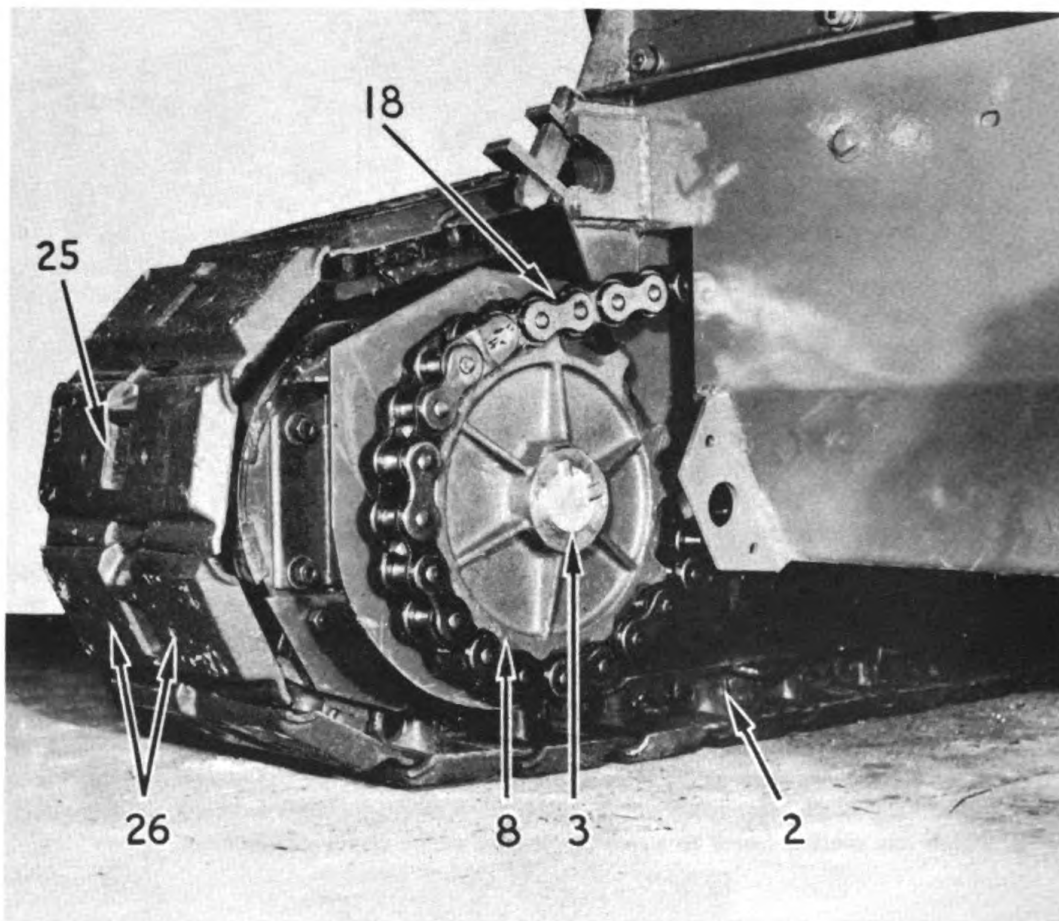
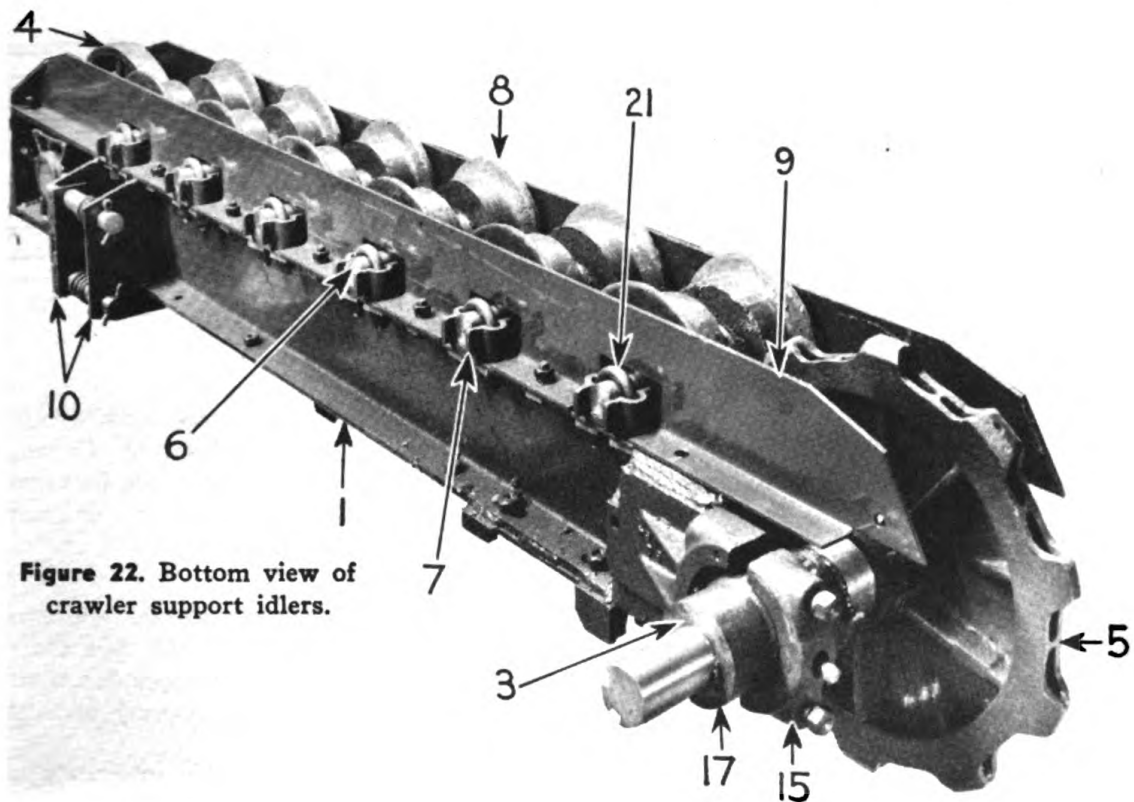

Figure 21. Crawler final drive.
Figure 22. Bottom view of crawler support idlers.
The frames (1) figure 19 are fabricated of channels and plates electric welded throughout. The bearing bases (4) for the drive end are electric welded to the frame. Near the take-up end are welded two lug angles (10) figure 22 to which the parallelogram type axle attaches. Near the drive end assembly the oscillating shaft attaches to the top of crawler frame by a bracket (3) figure 19 which has slotted holes to provide crawler drive chain adjustment.
The drive sprocket (8) figure 21 is located outside of the frame towards the center of the loader. The crawler head sprocket (5) figure 22 is located in the center of the frame. The shaft to which these sprockets are assembled is mounted in two bronze bushed ball and socket bearings. The bearings are held by caps which bolt to the bases welded to the crawler frame.
(32) Tread Rollers and Shaft Assemblies
The crawler tread rollers (8) figure 22 support the bulk of the machine weight.
The tread links have rectangular holes (25) figure 21 through the face to allow sprocket teeth to force out obstructing material thus making them self cleaning.